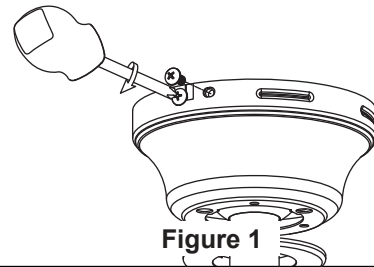

Figure 1
- 1. Remove and discard the five rubber motor stops from the motor assembly by removing the screws. (Figure 1)
1. Remove and discard the five rubber motor stops from the motor assembly by removing the screws. (Figure 1)
To avoid possible fire or shock, be sure electricity is turned off at the main fuse box before hanging. (Figure 1)
To avoid possible electrical shock, be sure electricity is turned off at the main fuse box before wiring. (Figure 1)
1. Slide the ceiling canopy over the mounting bracket with the two loosened screws going into the "L" slots in the canopy. Be sure all wiring is tucked into the ceiling canopy and is not pinched. Once the canopy is flush with your ceiling, turn clockwise to seat the screws into the keyed portion of the slot. Tighten the screws and install the remaining two screws removed in step 1 of page 10 (**How to Hang Your Ceiling Fan**) to secure the ceiling canopy to the hanger bracket. (Figure 1)
1. Lift the fan off the hanger bracket hook and mount your fan by sliding the ceiling canopy over the mounting bracket with the two loosened screws going into the "L" slots in the canopy. Be sure all wiring is tucked into the ceiling canopy and is not pinched. Once the canopy is flush with your ceiling, turn clockwise to seat the screws into the keyed portion of the slot. Tighten the screws. (Figure 1)
1. Position the blade over the blade holder with threaded posts showing. Make sure the bottom edge of the blade is fully seated against the blade holder. With a phillips screwdriver, tighten 3/16"-24 serrated head screws with flat washers to secure the blade to the blade holder. (Figure 1)
1. Remove the three screws from the switch cup assembly and retain screws for later. (Figure 1)
- 1. Restore electrical power to the outlet box by turning the electricity on at the main fuse box. (Figure 1)